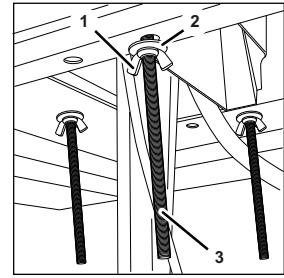

Fig. 14
5. Remove the wing nuts (Fig. 14/1) and washers (Fig. 14/2) on the threaded bolts (Fig. 14/4) used to attach the unit to the supporting structure.